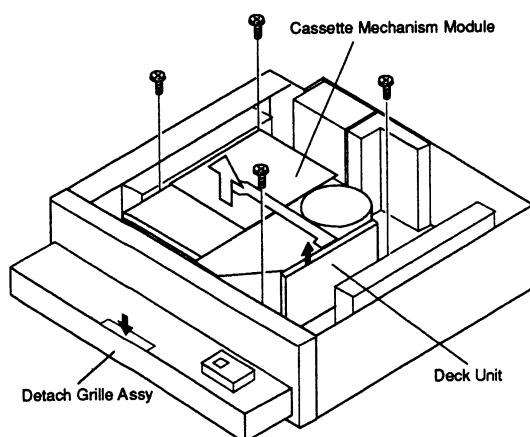

Fig.14
- 2.Press the button indicated by arrow and then remove the detach grille assy. (Fig.14)